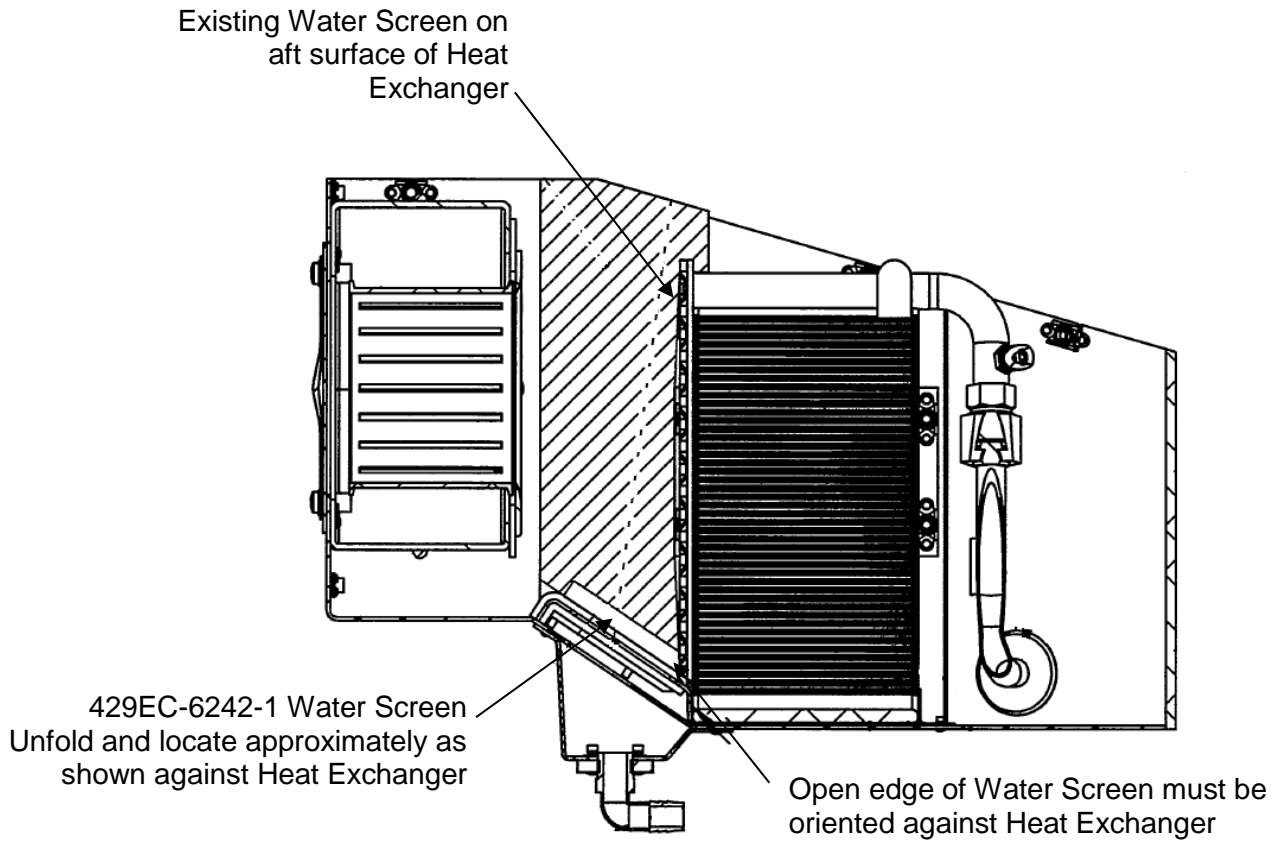

Figure 12: Aft Evaporator section shown with 429EC-6242-1 Water Screen Assembly installed
- 11) Fit 429EC-6242-1 water screen assembly as shown in Figure 12.